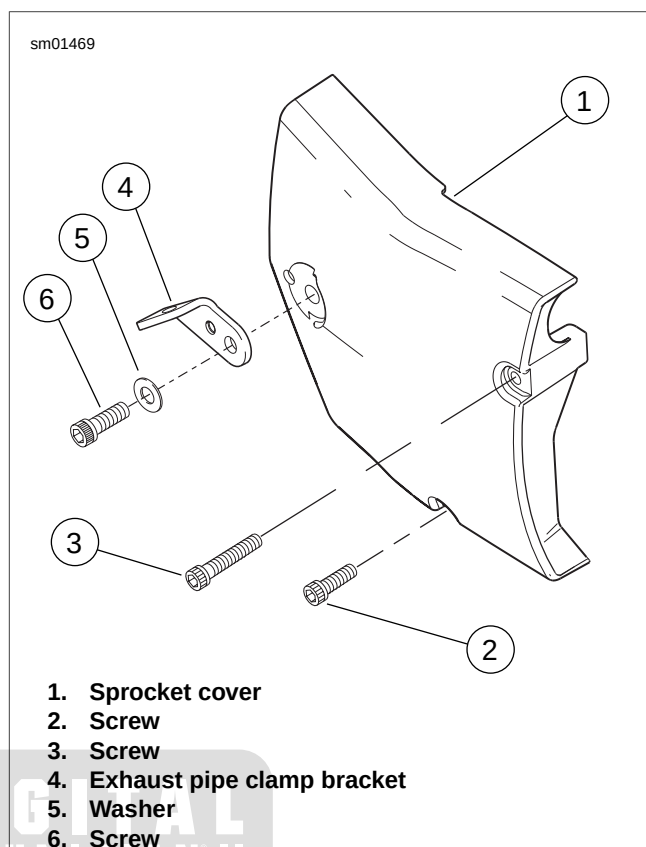

Figure 5-107. Sprocket Cover: XL Models
2. See Figure 5-107. Remove screw (6), washer (5) and exhaust pipe clamp bracket (4). Remove two screws (2, 3) and remove sprocket cover (1).
5. See Figure 5-107. Install sprocket cover (1). Secure with two screws (2, 3). Note that long screw goes in top hole, short screw in bottom hole. Do not tighten screws at this time.
6. Install exhaust pipe clamp bracket (4), washer (5) and screw (6). Tighten to 30-33 ft-lbs (40.7-44.8 Nm) . Now tighten screws (2, 3) to 80-120 **in-lbs** (9.0-13.6 Nm).